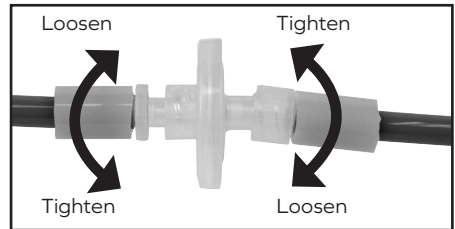

Fig. 5
4. Grasp sleeve clamp on both sides of filter and twist counterclockwise to disconnect filter (Fig. 5).